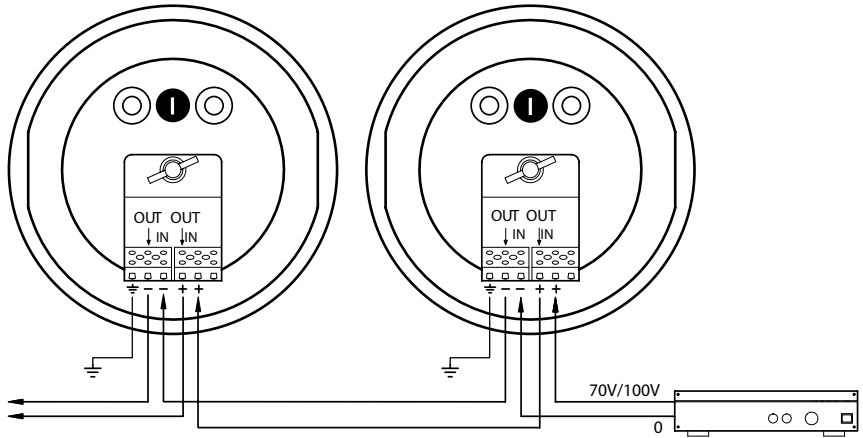

FIGURE 5
Connections with the audio line are made by using the two ceramic terminal strips situated inside the base and can be made even without the presence of the speaker, which can be installed at a later time. The **IN** +/- terminals are used for audio signal input and the **OUT** +/- terminals (that are directly connected to the corresponding **IN** +/- terminals) can be used as an output to link additional loudspeakers in parallel (see figure 5).
1. Insert cables through the two rubber cable guides I (figure 5) on the base.
1. Insert the protective conductor of the local earth system through one of the rubber cable guides **I** (figure 5) on the loudspeaker base.
2. Connect the earth conductor to the terminal strip contact marked with the earth symbol (figure 5).